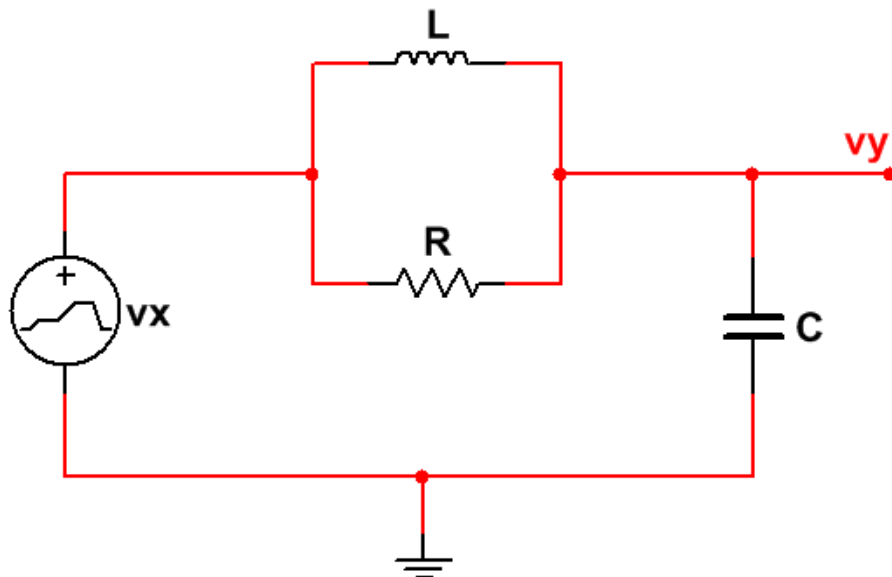

Figure 3.2: Car suspension circuit.
- Enter the circuit of Figure 3.2 into NI Multisim. Use a `PIECEWISE_LINEAR_VOLTAGE` source to create the input pavement velocity profile for the 0.5 m/s speed bump.
► Build the circuit of Figure 3.2 on the preceding page: